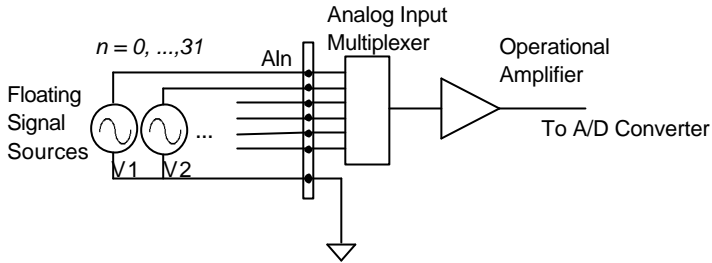

Figure 4.1 Signal sources and single-ended connection
The single-ended (SE) mode means the voltage signal to be measured is relative to the isolated ground (IGND) and is suitable for connecting with the floating signal source. The floating source means the signal source have no connection to real ground or to PC's ground. Figure 4.1 shows the single-ended AI signal connection. Note that when more than two floating sources are connected, the sources must have common ground.